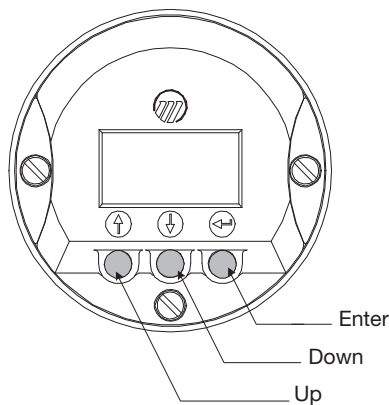

Figure 2
3. Use the \uparrow and \downarrow keys to move from one step of the configuration program to the next step, see Figure 2.